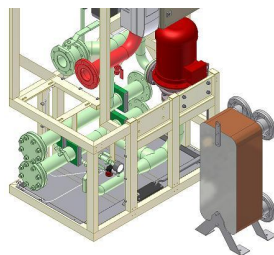

Figure 4.2-6
7. The plate heat exchanger weights about 87 kg. First pull it carefully to the front edge. Then use a jib crane or a forklift to lift it away (Figure 4.2-6).